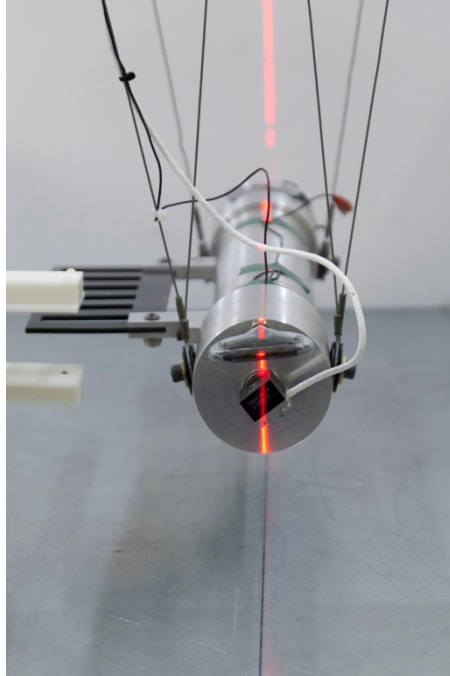

Figure 58. Align laser with probe centerline and pendulum path reference line on support surface
- Align the laser vertically along the back of the probe, along the top of the centerline of the probe (Figure 58), and along the probe path reference line on the support surface. Leave the laser in this position for the duration of the setup.